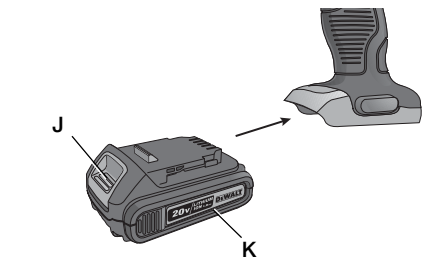

FIG. 3
Charging Procedure (Fig. 3)
- Insert the battery pack (K) into the charger, as shown in Figure 3, making sure the pack is fully seated in charger. The red (charging) light will blink continuously, indicating that the charging process has started.